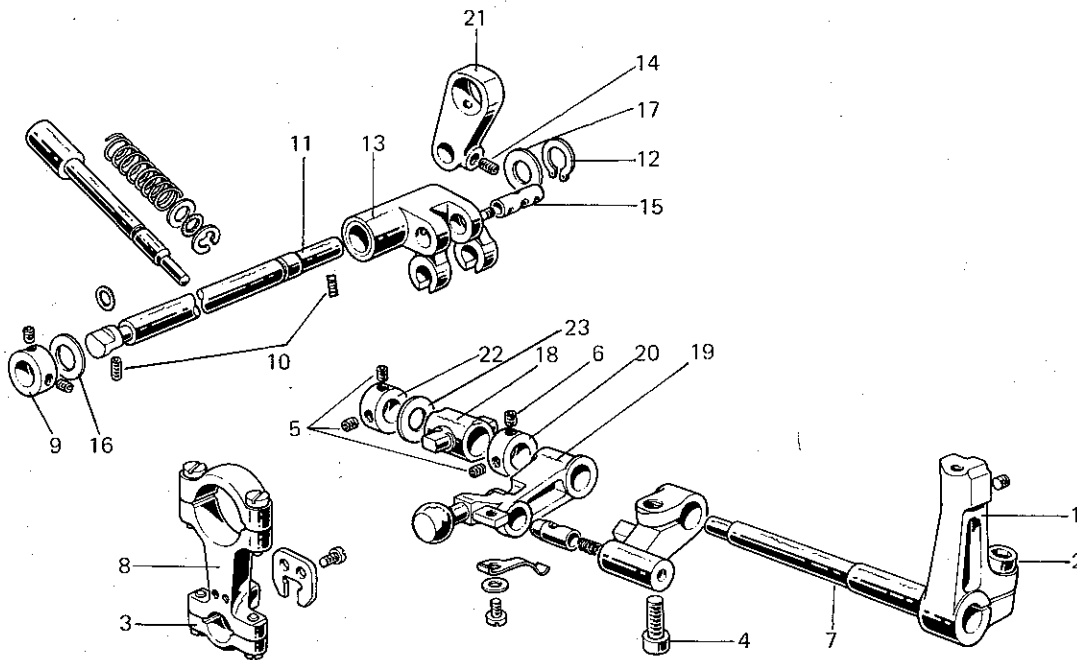

fig. 1
- Take off shaft 7 (fig. 1)
- Disassemble big-end of con-rod 8 (fig. 1)
- Unscrew ring screws 9 (fig. 1)
- Slacken screws of retainer 10 (fig. 1) set in the base at the end of pin 11 (fig. 1)
- Remove snap ring 12 (fig. 1) and take out pin 11
- Disassemble lever 13 (fig. 1) removing screw 14 and taking out pin 15
- Take off con-rod 16 (fig. 1) levering on the machine handwheel and springing the shaft outwards; this is the only way to disassemble said con-rod.
- Insert con-rod 21 (fig. 1), levering on the machine handwheel and springing the shaft outwards. Make sure that the setting notch on the con-rod is facing towards the outside of the machine.
- Assemble lever 13 (fig. 1) to the con-rod by inserting pin 15 (fig. 1), take care to insert it with the internal wick plug screw towards the outside of the machine and the notch turned towards the hole for screw 14 (fig. 1)
- Insert pin 11 (fig. 1), setting the following parts on it in this order: ring 9, washer 16, lever 13, washer 17 and snap ring 12 which is fitted with the special clamp in the collar on the shaft
- Bring ring 9 (fig. 1) close up, thus packing lever 13 (fig. 1)